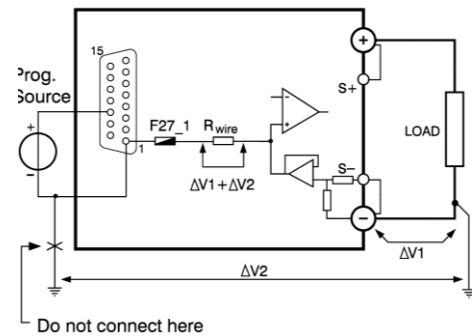

fig 6 - 1
- Please check why current is flowing through pin 1 (see also next paragraph and fig. 6 - 1).
- Fig. 6 - 1 shows a typical earthing problem. In case the load has a connection to earth and the programming source as well, problems could occur. Improper choice of the earthing point of the load can give a voltage drop of $\Delta V1$.